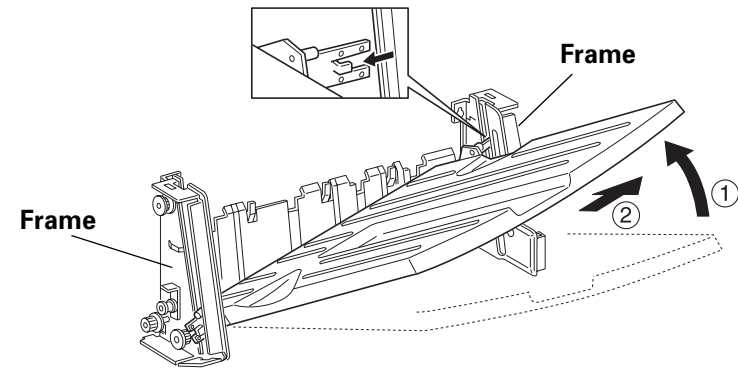

Figure 1
6. Remove the Tray by sliding it off from the grooves of the Front Tray frame and the Rear Tray frame. (Figure 1)